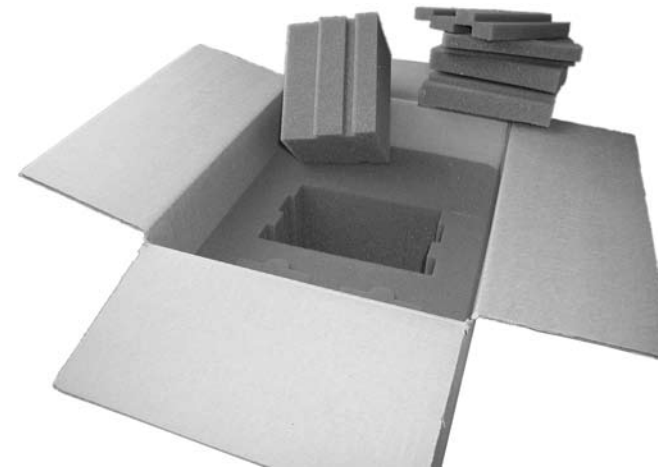

Figure B-5 — Removing outer side foams
7. **CC 800 only** — Remove and discard the outer side foam sections of the cushion in the carton (figure B-5). **This is the correct fit for a Cable Cubby 800 model.** Proceed to step 8.